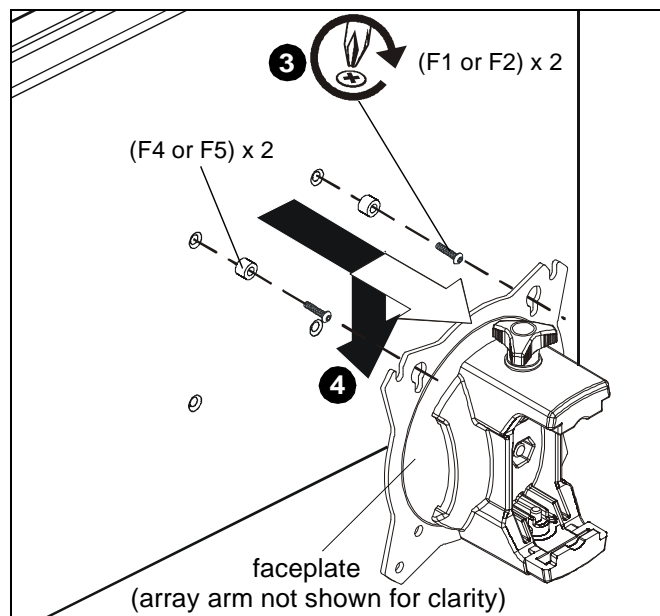

Figure 9
- Using Phillips screwdriver, carefully install two selected screws (F1 or F2) through selected spacers (F4 or F5) into the *upper* mounting holes on the display. Thread screws completely into display, then back out 3 complete turns. (See Figure 9)
- Pick up and align display so that screws (F1 or F2) (installed on the back of the display in the previous step) fit into the mounting holes on the faceplate. Lower the display firmly into place. (See Figure 9)